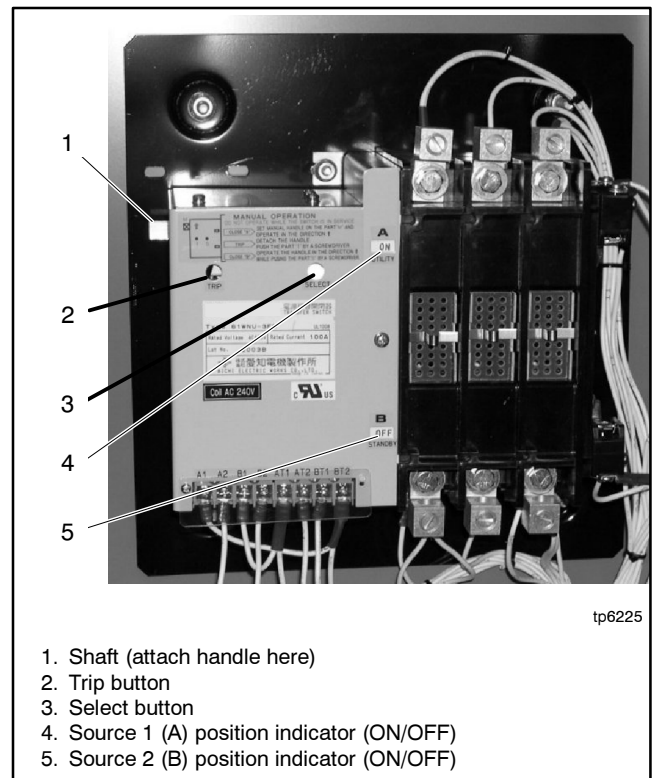

Figure 2-7 Manual Operation, Model KDP/KMP Programmed- Transition Switches (handle not shown)
1. Check the contactor position, indicated by the A and B position indicators. See Figure 2-7. One position indicator will display ON to indicate the source position. If both indicators display OFF, the transfer switch is in the OFF position.
2. If the transfer switch is not in the OFF position, use a screwdriver or other tool to push the TRIP button. See Figure 2-7. Check that both position indicators display OFF.
3. Slide the manual operating handle (provided with the switch) over the shaft on the left side of the switch. See Figure 2-7.